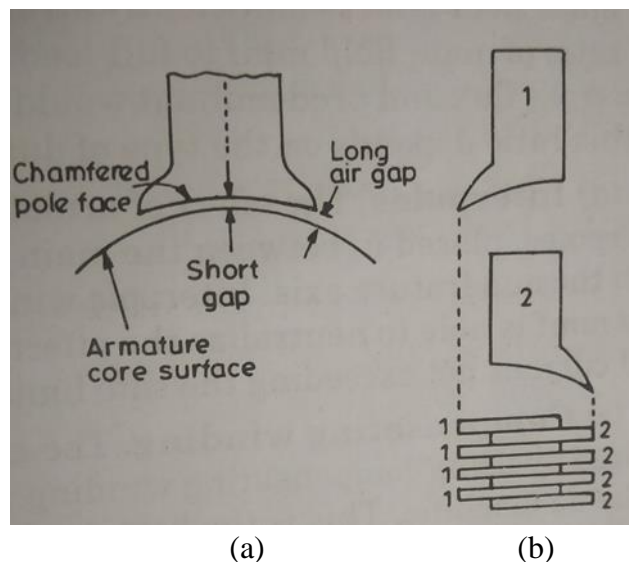

Fig.1.11 (a) Chamfered or eccentric pole, (b) Laminations 1 and 2 are stacked alternatively
- Using chamfered or eccentric pole shoes which results in short air-gap length at the pole centre and longer air-gap lengths under the pole tips, i.e. the profile of the pole shoe is not concentric with the armature core as shown in fig. 1.11 (a).
- Assembling alternatively the pole laminations as shown in fig. 1.11 (b). Due to this the iron area under the pole is halved and hence the reluctance of the pole tips is considerably increased.